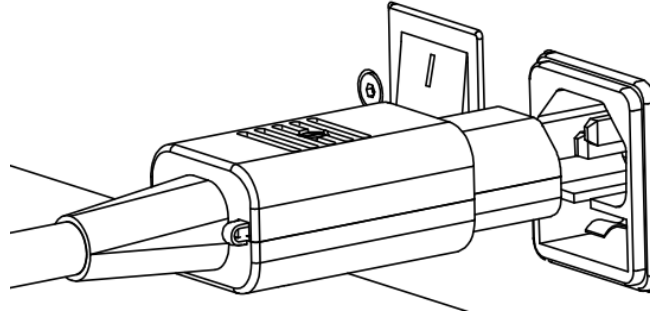

Figure 5-9 Power cord connection interface
Step1. Connect the control cabinet, and insert the power cord shape plug into the power cord connection port of the control cabinet (see Figure 5-9).